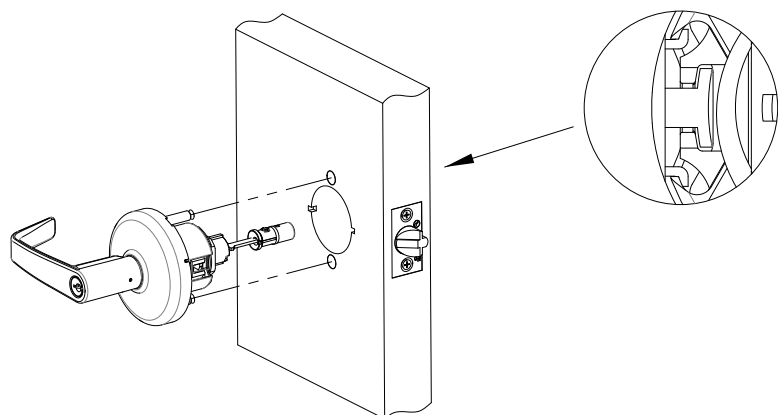

Figure 6
1. Insert outside trim assembly into door from outside making sure that lockbody hooks latch case and retractor engages bolt tail(s) (See Figure 6).